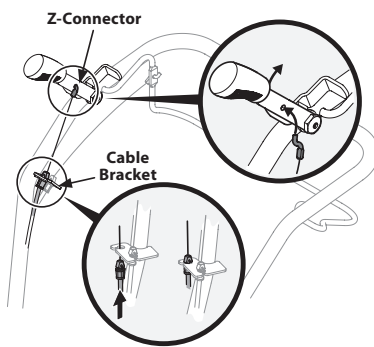

Figure 7
4. Pull the reverse clutch cable (if equipped) with the red fitting up through the top hole of the cable bracket and push the cable connector up through the hole until the groove in the connector snaps into place. See Figure 7.
5. Place the Z-connector into the hole in the reverse clutch handle assembly from the inside of the handle to the outside. See Figure 7.